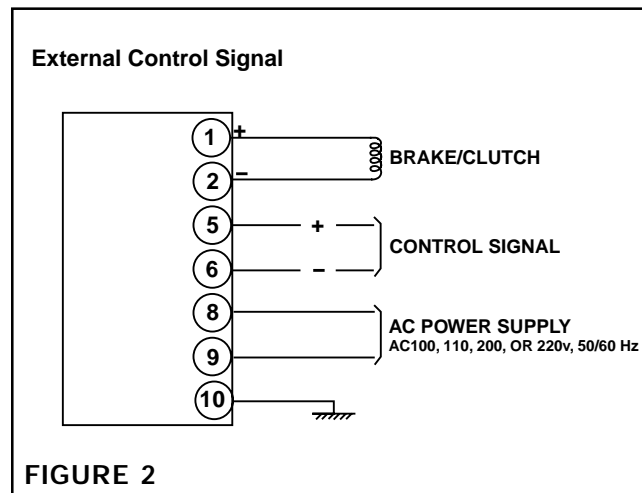
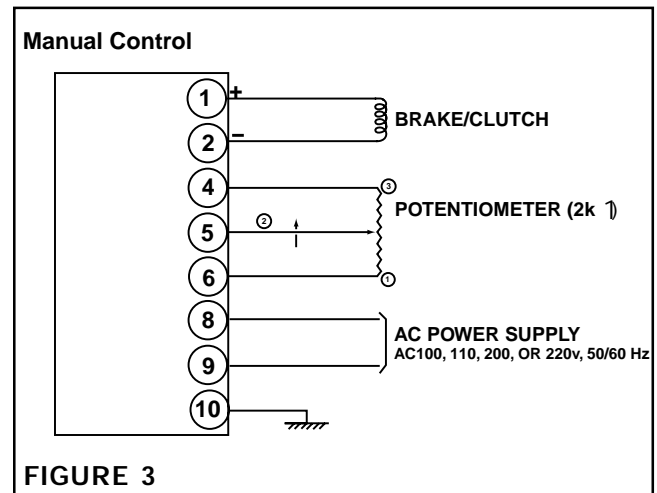

FIGURE 2
FIGURE 3
**NOTE:** Refer to Figure 2 if amplifier is operated with an external control signal (0-10 VDC)\*. Refer to Figure 3 if amplifier is operated manually with an external potentiometer.